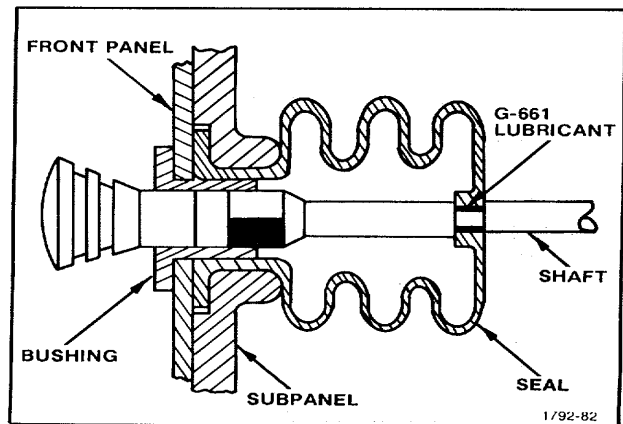

Figure 5-29. Installation of the POWER SWITCH.
26. Install Power Switch Shaft Into Front Panel (see Fig. 5-29)
3. Install as shown in Fig. 5-29.